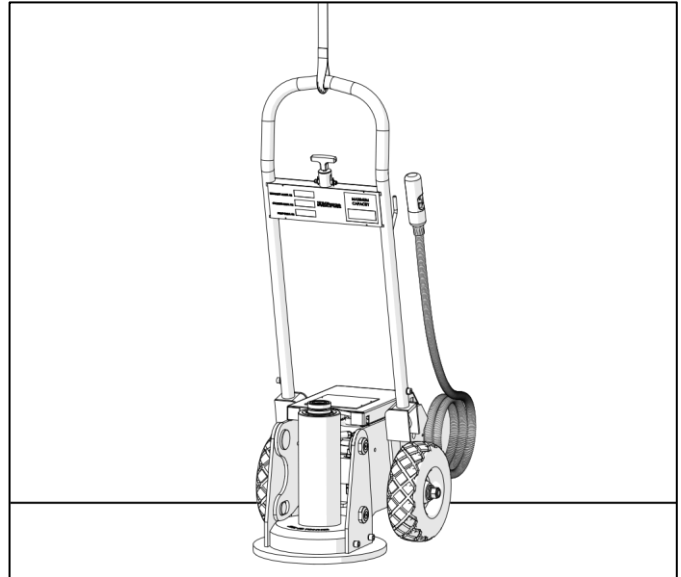

Figure 7.2: Lifting the Unit
- Attach the lifting strap to the uppermost horizontal beam of the handle assembly (See *figure 7.2*).